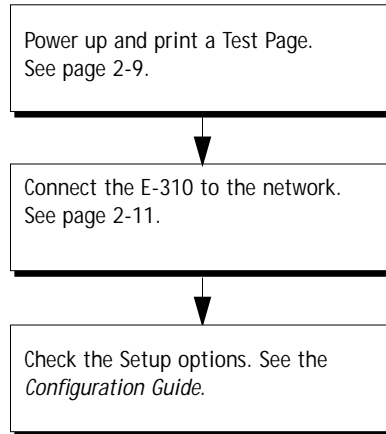

FIGURE 4-16 E-310 connection verification steps
7. Before you leave the customer site, verify E-310 operation (see Figure 4-16 on page 4-22).